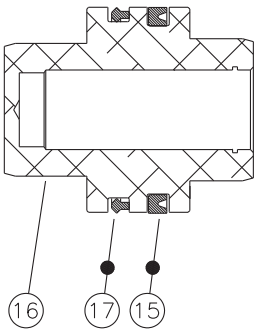

Figure 4a
2. Install new retaining ring (26) in flange end of housing (23).
3. Remove protective plastic cap from end of new piston assembly (22).
4. Install piston assembly (22) into large bore end of housing (23). Note direction of piston assembly (22).
5. Install new piston assembly (21) in housing (23). Note direction of piston assembly (21).
6. Install retaining ring (20) in housing (23). **NOTE: Be careful not to scratch or mar housing bore.**
7. Install spring (19) in housing.
8. Install new cups (15 & 17) on piston (16). Note direction and order of cups (15 & 17). See Figure 4a.